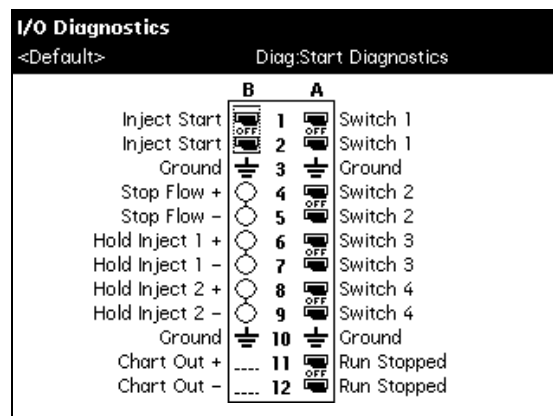

Figure 8-15 I/O Diagnostics Screen
- Select **Inputs and outputs** in the Other Diagnostics screen, then press the **OK** screen key. The I/O diagnostics screen appears (Figure 8-15).